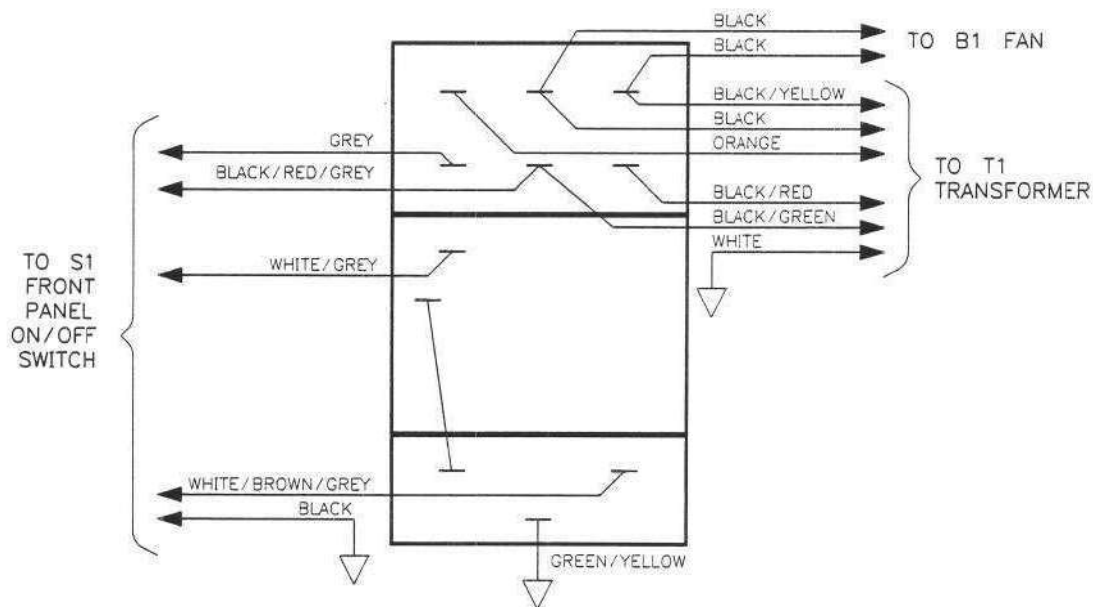

Figure 6-4. Wire Connections to Line Module FL1
10. When you replace the transformer, refer to Figure 6-4 for the location of the wires connected to the line module.